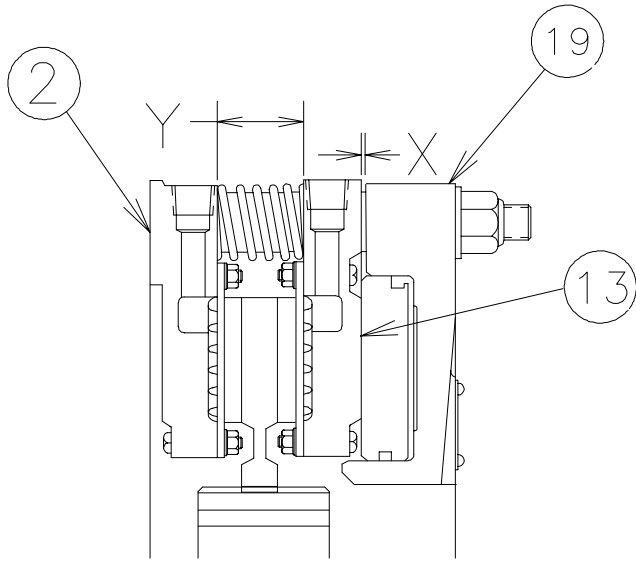

Figure 13
Apply approximately 25 PSIG (1.7 bar) air pressure to the cylinder to engage the tensioner. Measure the gap "X" between the cylinder (19) and the pressure plate (13) or the gap "Y" between the pressure plate (13) and the mounting flange (2) as shown in Figure 13. If the gap exceeds the limits shown in Table 9, the friction discs and/or wear plates must be inspected to ensure that the wear limits listed in section 9.0, Table 10 have not been exceeded.